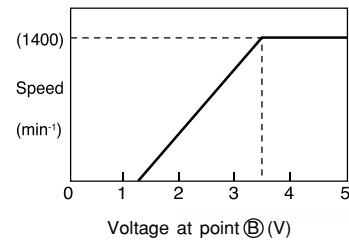

Fig. 7-3
- The pulse is converted into the analog voltage by the R751 and C751 and applied to the fan motor as the speed command voltage. Fig. 7-3 shows the relation between the voltage at the point B and the speed. (Some differences will occur due to the condition of the unit.)
- The fan motor outputs the feedback pulse of the speed, which is input into the pin ⑩ on the micro computer. This pulse is equivalent to a frequency of 12/60 speed. (Example:  $1000 \text{ min}^{-1} \times 12/60 = 200 \text{ Hz}$ )